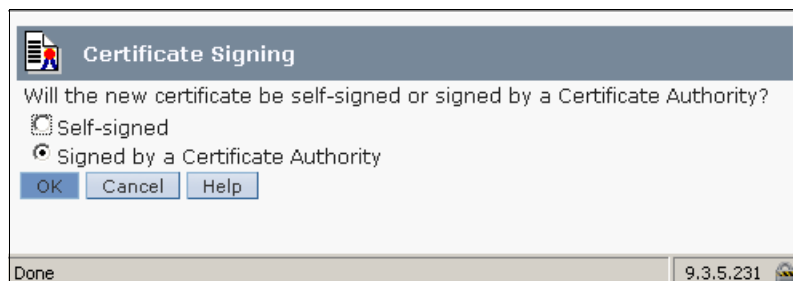

Figure 5-3 Certificate Signing
2. You are given the option of creating a self-signed certificate or a certificate signed by a Certificate Authority as shown in Figure 5-3. Select **Signed by a Certificate Authority**.